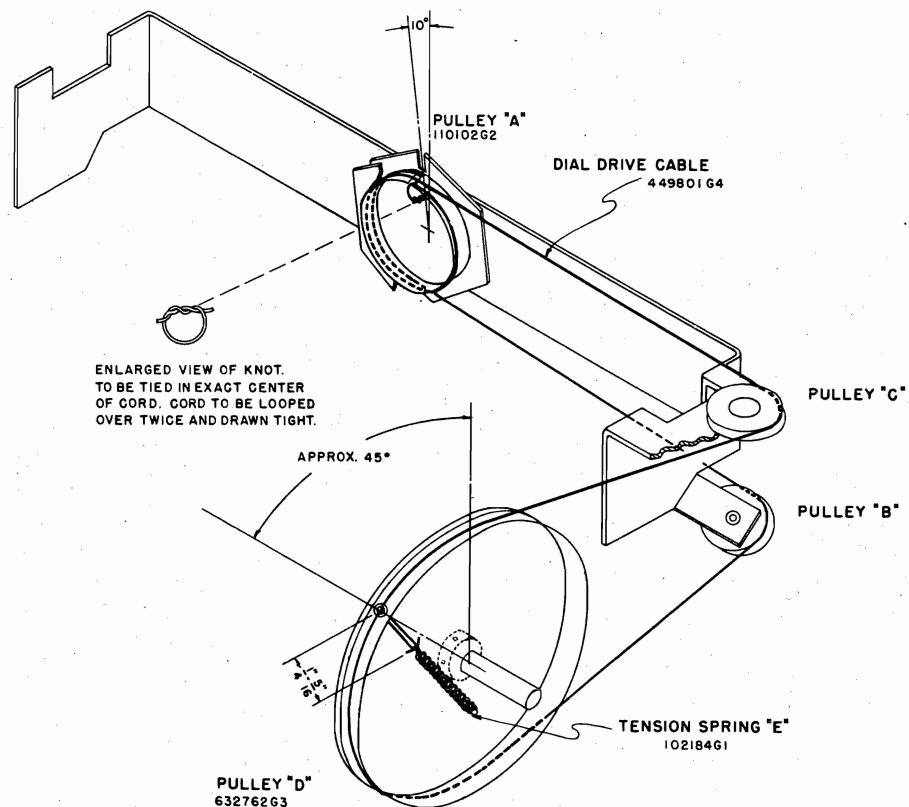

FIGURE 1
1. Remove the signal generator lead from the 6SA7 grid and connect it to the radio antenna terminal through the .00025 mfd. capacitor. The ANT-LOOP switch (60) must be in the ANT. setting.
2. Check the tuning dial pointer adjustment. When the plates of the tuning condenser are completely meshed, the dial pointer must be in line with the last calibration mark at the low frequency end of the dial. If it is not, loosen the set screws in the hub of pulley "D" shown on Figure 1 and make the necessary adjustment.
5. If the loop antenna trimmer is out of adjustment it should be set after the radio chassis is in the cabinet. Set the ANT-LOOP switch (60) to the LOOP position. Adjust the signal generator to 1400 kilocycles and connect its output to a loop containing approximately five turns of wire eight inches in diameter placed eighteen inches from the receiver loop and in the same plane.
Rotate the brass pulley designated "A" in Figure 1 until the dial pointer strikes the stop at the high frequency end of the dial calibration. In this condition the slot in pulley "A" should be approximately ten degrees to the left of being vertical—see Figure 1. If the slot in the pulley is in some other position under the above mentioned conditions, the pointer set
Completely unmesh the condenser gang and check the location of the hole or slot in pulley "D." If this hole is not approximately 45 degrees back from vertical as shown on Figure 1, loosen the two No. 6 Allen set screws in the hub of pulley "D" and slip the pulley on its shaft (while holding the condenser gang unmeshed) until the specified adjustment is obtained; then tighten one of the set screws securely. It will be shown later that this is a temporary setting. Next, tie a double knot in the exact center of a 25-inch length of dial cable and fold the cable back on itself so that the knot is at one end. The correct method for tying this knot is shown as an inset on Figure 1. Grasp the cable near the knotted end and slide it into the pulley slot so that the knot is against the inside rim of the pulley as shown in the sketch. The piece of cable nearest the dial frame should be wound in the direction shown for one-half turn; then over the lower pulley "B," around the bottom of the large pulley "D" and into the hole. Pull the cable